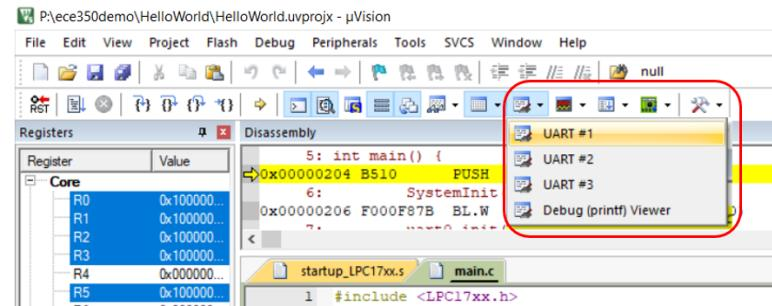
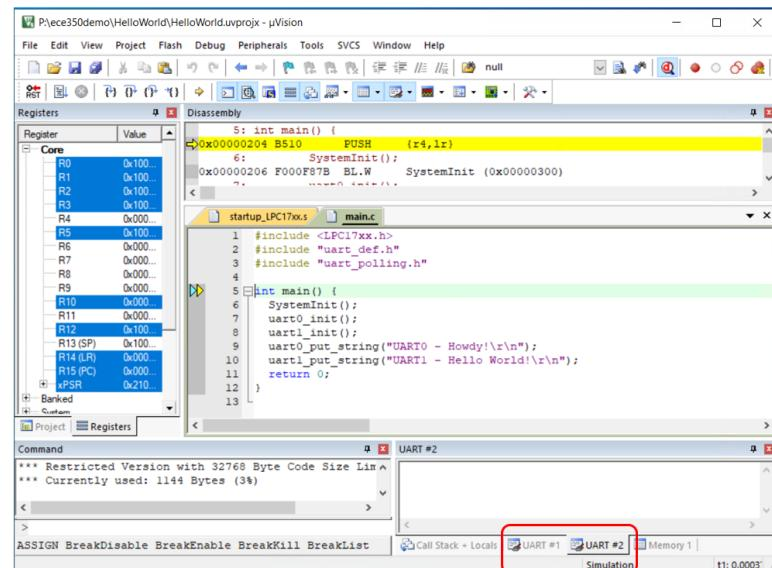

Figure 8.20: Keil IDE: Debugging. Enable Serial Window View.
Figure 8.21: Keil IDE: Debugging. Both UART0 and UART1 views are enabled in simulator.
3. Select UART1 and UART2 (see Figure 8.20) from the serial window drop down list so that they appear in simulator (see Figure 8.21). Note that the hardware UART index starts from 0 and the simulator UART index starts from 1. So the UART1 window in simulator is for the UART0 on the board. The UART2 window in simulator is for the UART1 on the board.